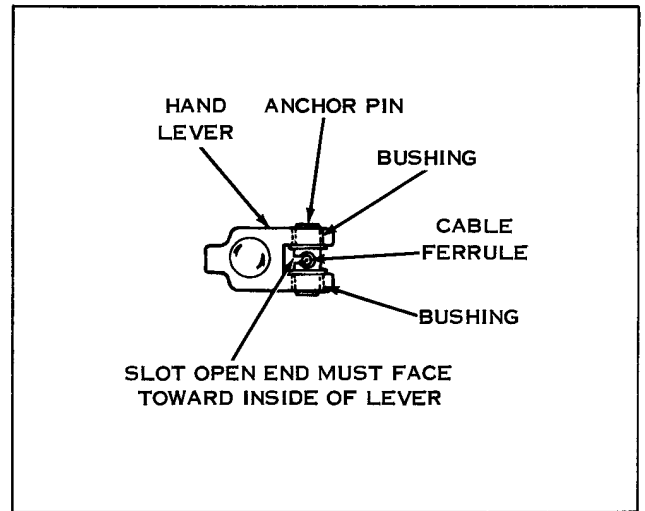

Figure 4-1. Clutch Hand Lever Cable
disassemble cable from hand lever at anchor pin, turn sleeve into bracket (3) and remove cable from side slot as shown in Figure 4-1. When reassembling cable ferrule in hand lever anchor pin with side slot, be sure slot is toward inside as shown.